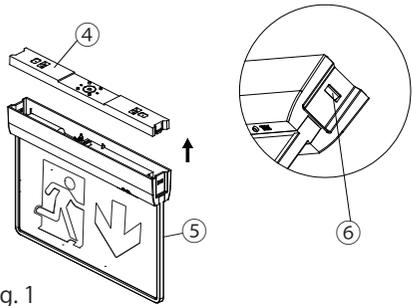

Fig. 1
Fig. 1: Carefully press in the retaining lugs ⑥ and remove the mounting bracket ④. Insert the corresponding slide-in foils into the lamp ⑤ according to the circumstances.